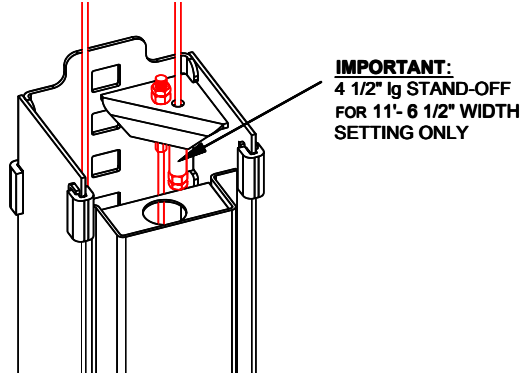

Fig 7 – Cable Assembly
- 18) Attach one end of synchronizing cable to carriage. See **Fig 7** for proper attachment.
- 19) Route cable up and over sheave in overhead. Follow across to other sheave on opposite column. Route down through carriage to sheave in bottom of column. Route under sheave and up to cable attachment. Use **Fig 7** for proper attachment.